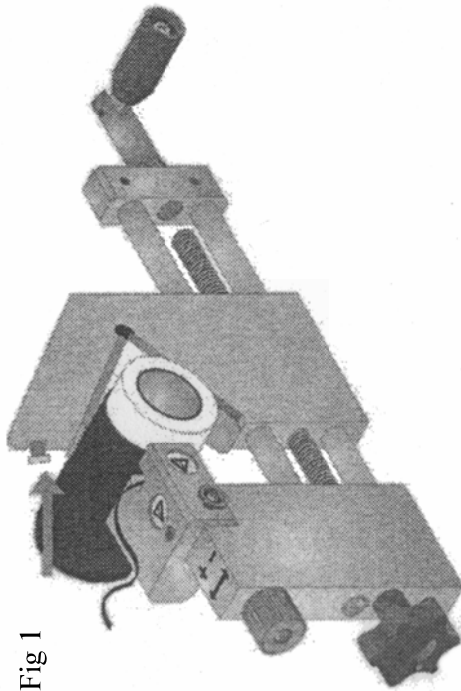

Fig 1
- 3.1.3 Close up the tool jaws using the large, black plastic knob marked by a red arrow, to provide a firm grip that will still allow the tool to rotate. At this stage, the button marked by a blue arrow should be in the FRONT position, as shown in Fig 1 of GR2D 6.28.3.
- 3.1 Using tinned copper braid E 5 No. 36802 from the van; cut a 300mm length from the roll. Open out the braid as in Figure 1 of GR2D 6.28.2.